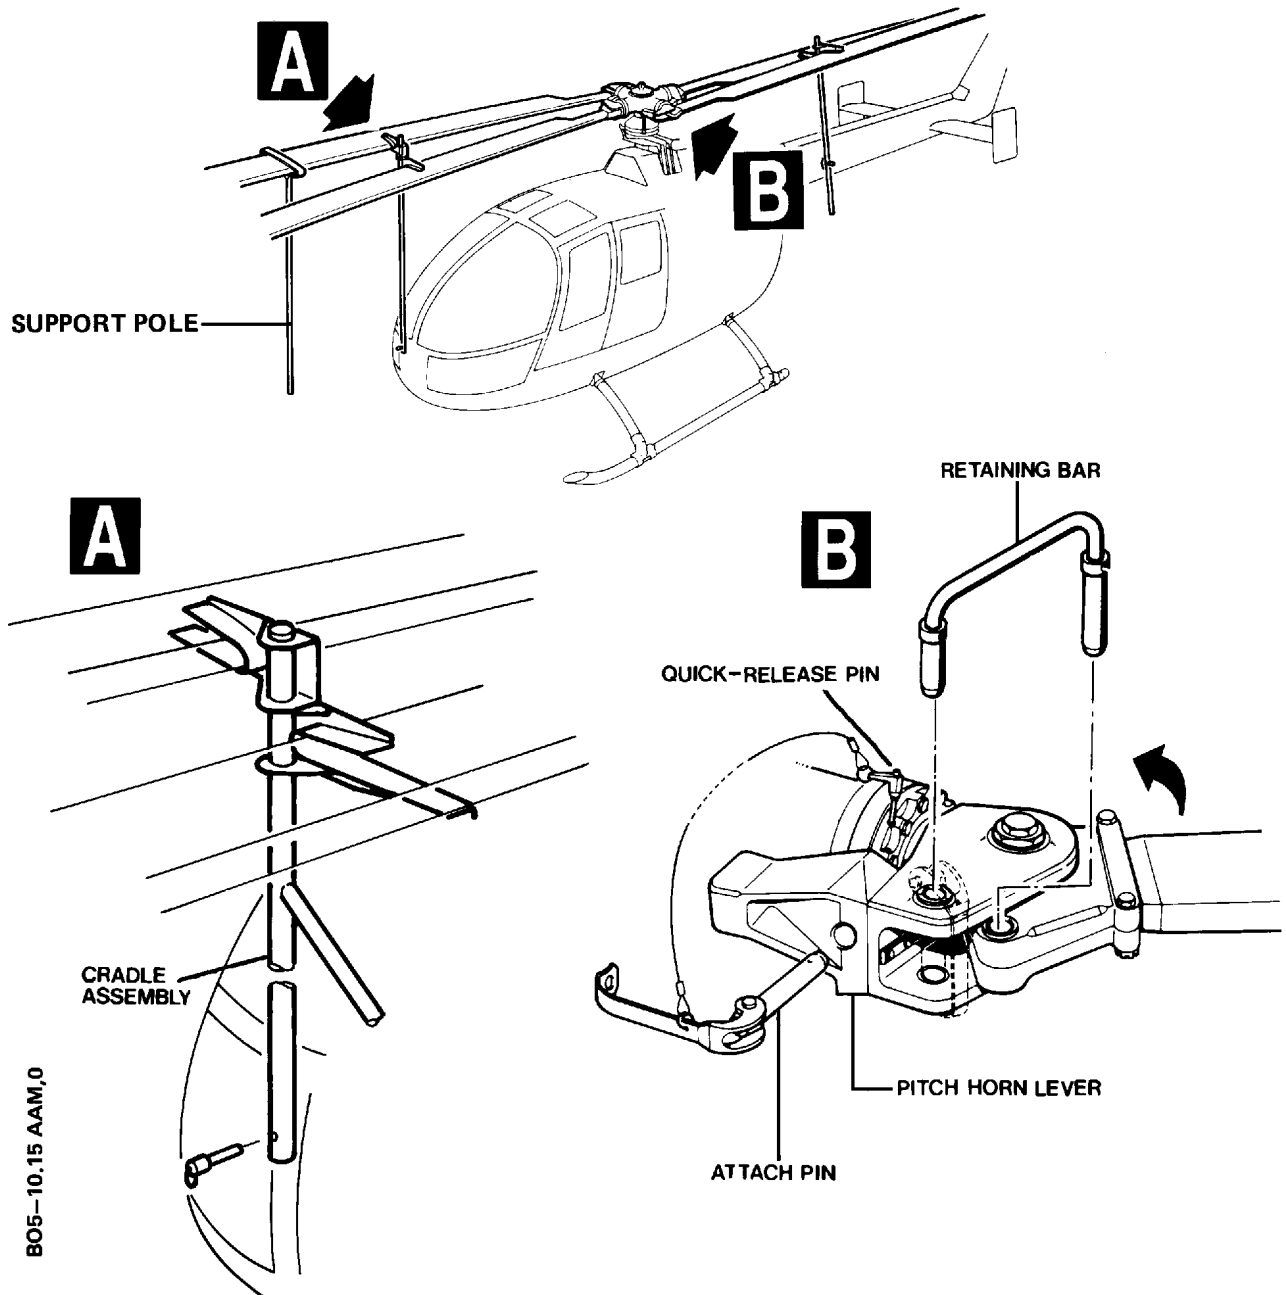

Fig. 1 Main Rotor Folding System
8.1.1 Folding (see Fig. 1)
8.1.2 **Unfolding** (see Fig. 1)